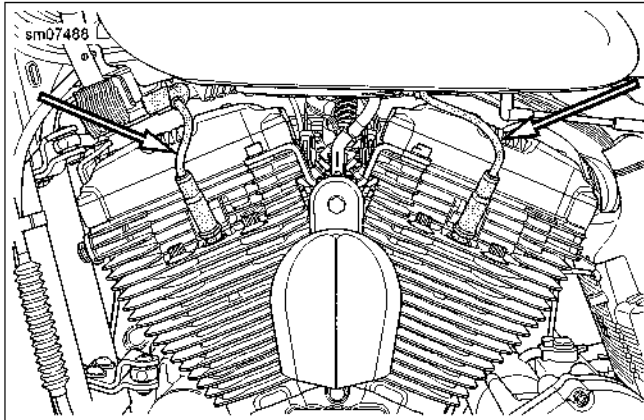

Figure 1-38. Spark Plug Cable Routing: All Models
3. See Figure 1-38. Connect spark plug cables. Verify that the cables are connected to coil, spark plugs and anchor clips or harness caddies.